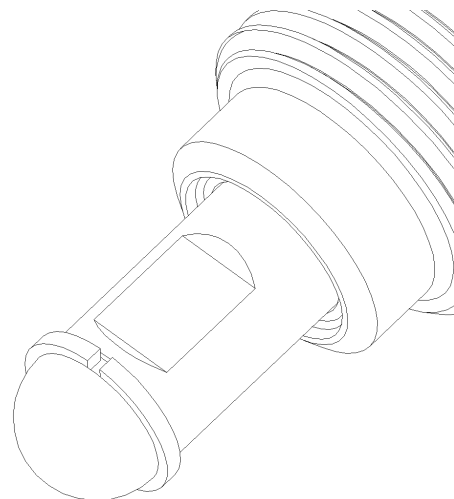

Figure 3
9. Depress the sleeve to expose the flats on the plunger. Refer to Figure 3. Put an 8mm (5/16”) spanner on the flats of the plunger. Using the spanner and allen key, tighten the grub screw to secure the sleeve in place.